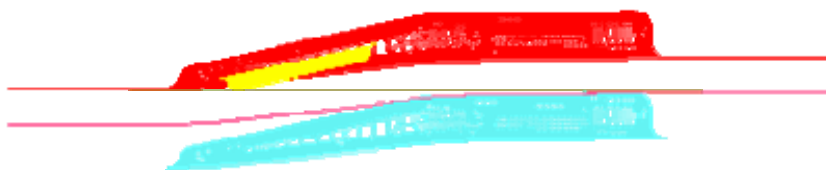

Figure 5.70 The relative position of tools and blank after positioning
6. Click  and  icon on the **Icon bar** to display the relative position of tools and blank, as illustrated in Figure 5.70.